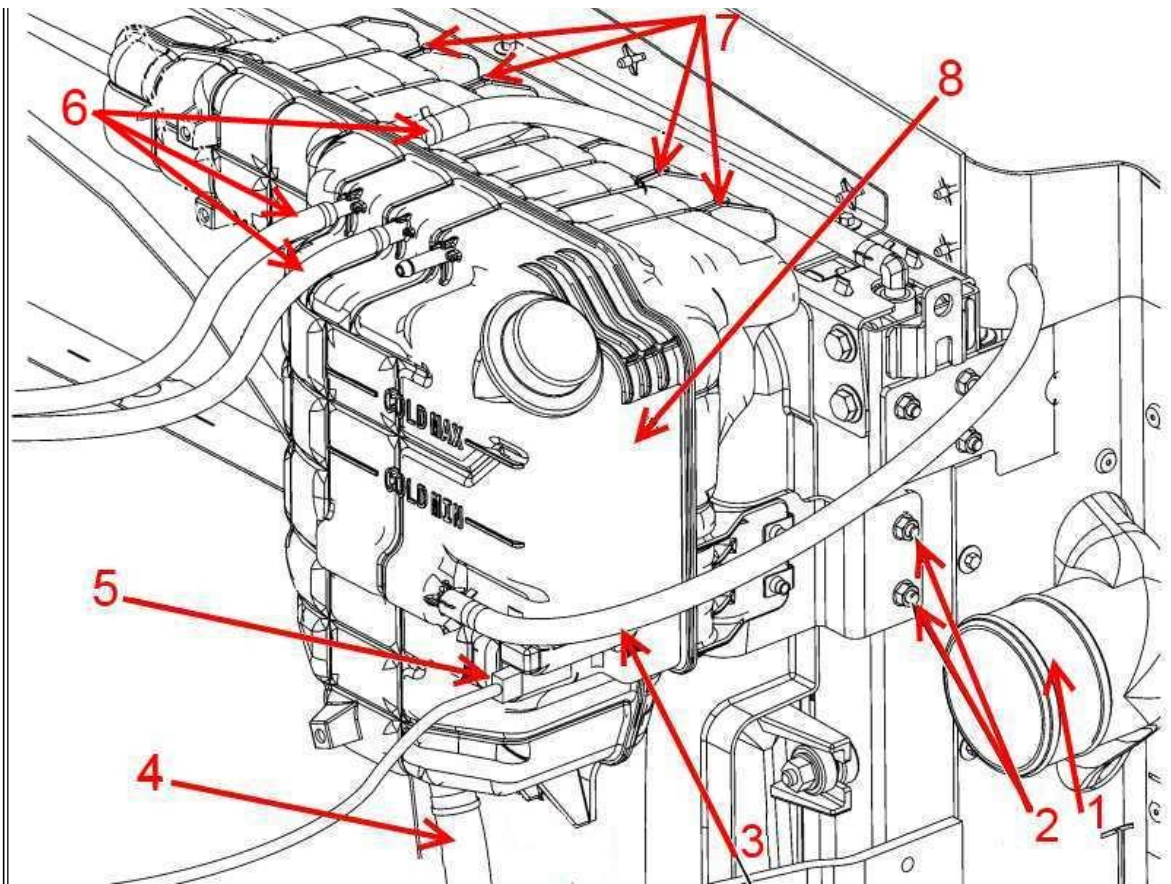

Figure 28: Deaeration Tank Assembly
28. Attach the deaeration tank to the radiator. Install the four nuts to the top of the radiator (**Figure 28**, Item 7) and torque to 14 lb-ft (19 N-m).
29. Install the nuts securing the side bracket to the radiator (**Figure 28**, Item 2). Torque to 14 lb-ft (19 N-m).
30. Attach the wire harness to the coolant level sensor (**Figure 28**, Item 5).
31. Attach the coolant return line to the bottom of the deaeration tank (**Figure 28**, Item 4)
32. Attach the deaeration lines (**Figure 28**, Items 3 & 6).
33. Install the HP CAC (**Figure 28**, Item 1) and torque the clamp to 6 lb-ft (8 N-m).